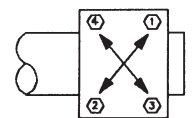

Figure 5
3. Mount luminaire by holding it approximately level and snug up pipe clamp nuts (4-5 foot-pounds). Finish tightening clamp nuts as follows: (See Figure 5) Tighten each nut one turn at a time alternating in a diagonal pattern. Correct torque may be achieved by turning each nut 2-3 full turns past "snug" position or by tightening nuts to 10-12 foot-pounds, whichever comes first.